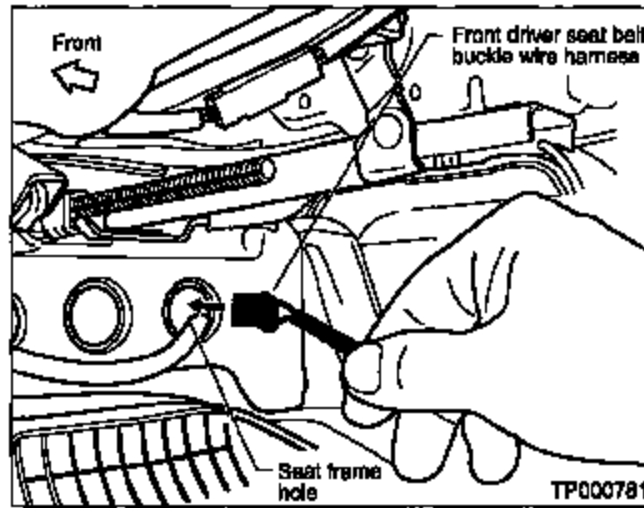

Figure 8
- A. Route the seat belt buckle wire harness and connect it to the mating vehicle harness (see Figure 8).